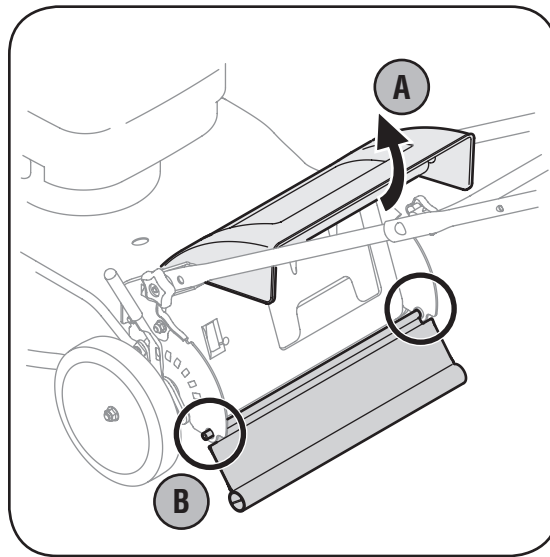

Figure 5-2: Replacing the rear flap.
2. Bend (bow) the rear flap inward on each side to release tabs from the holes in the handle mounting brackets, Figure 5-2.